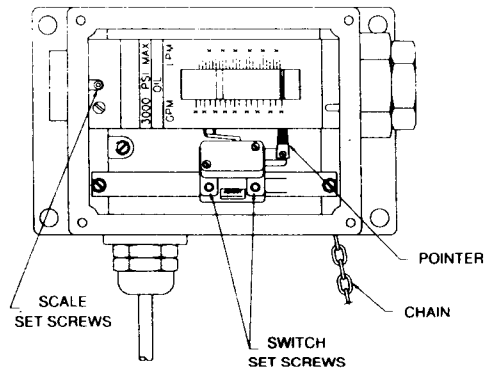

Figure 3-4. Location of Set Screws
2. Loosen two (2) set screws (1/16" allen wrench). See Figure 3-4.
3. Position switch using pointer as guide. See Figure 3-4.
4. Confirm switch setting by snugging two (2) switch set screws and manually moving the white indicator ring up toward full flow capacity and then back down toward "zero" flow. A distinct "click" should be heard as the orange indicator passes the switch set point.
6. Replace cover and secure four (4) cover screws.